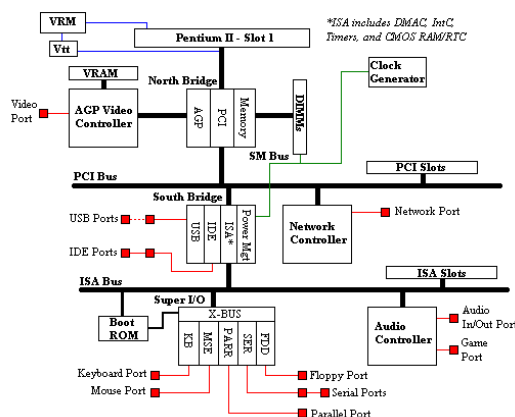

Fig. 1 – Example Architecture
1. Understand the board structure. That is, divide the board into functional blocks, and create a hierarchical block diagram of the board structure, similar to the one shown in Figure 1.
Using available board documentation divide the board into functional blocks, and draw a block diagram of the board structure, similar to the one shown in Figure 1. Use the following points as a guide to do this:
Using the block diagram, identify all the major blocks for which you can write a functional test sequence. A list of possible test sequences for the board example in Figure 1 are: